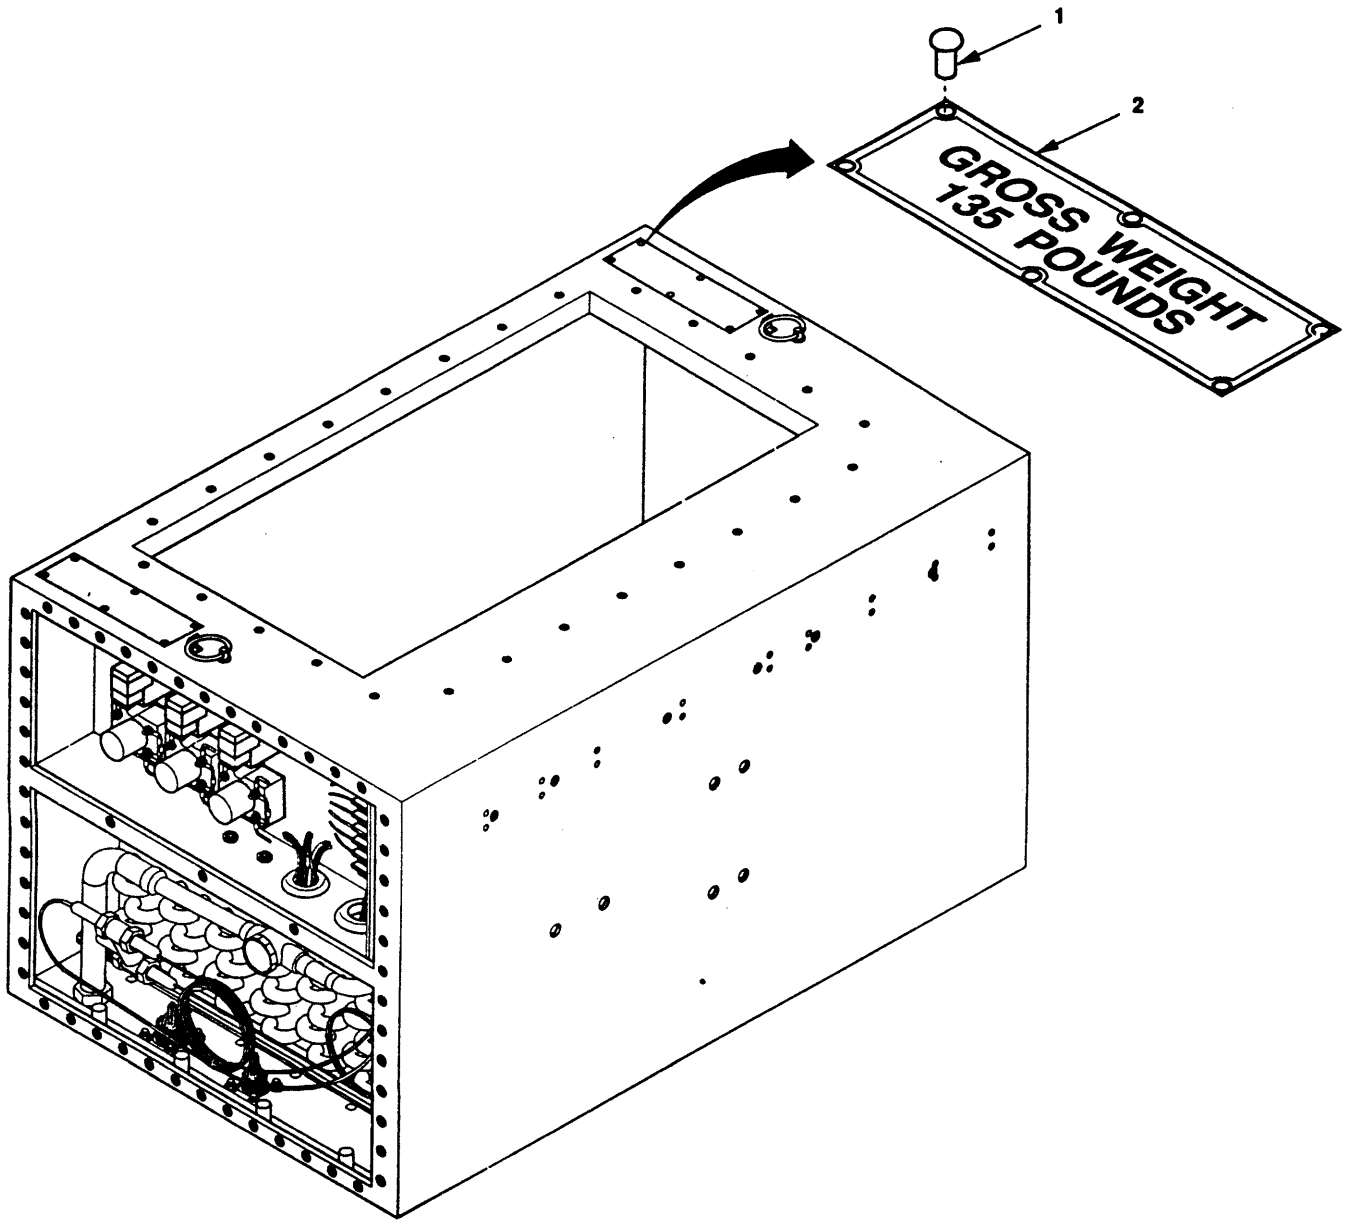

Figure 5-4. Data Plate Replacement
- a. **Remove.** Remove six rivets (Figure 5-4, 1) and data plate (2). Discard rivet (1).
- (1) Position data plate (2) on condenser assembly (3) and secure with six new rivets (1).
- (2) Follow on maintenance: